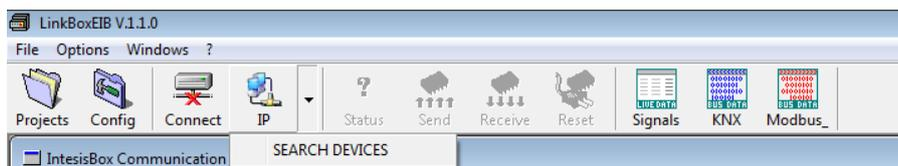
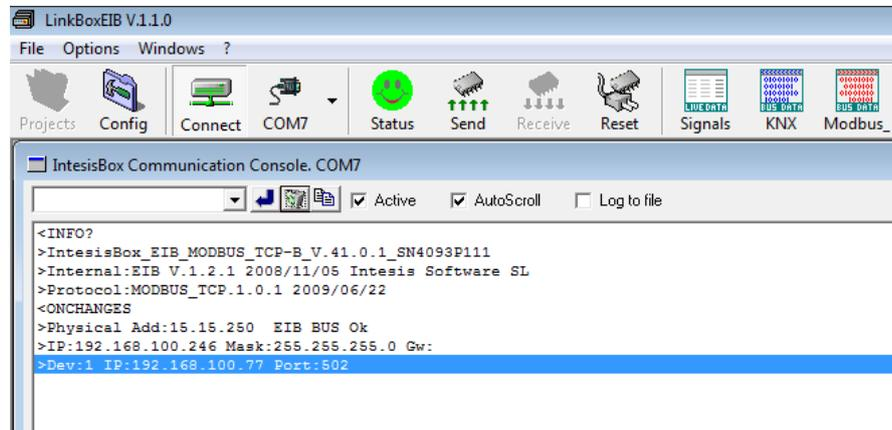

Figure 6.2 Search IntesisBox when connected to the Ethernet
Figure 6.3 Connected
3. (only for IP connection) If the IP is not known click on the arrow next to the IP button (Figure 6.2) and then on SEARCH DEVICES. That will find the IntesisBox connected to the user's subnet. The information of the connected gateways is displayed in the Communication Console (Figure 6.3)
5. If the connection has been successful, the *Connect* and *Status* symbols will turn green and the information of the device will appear in the communication Console (Figure 6.3). Otherwise check the connection parameters (in previous points), connections (check the Connection section in your IntesisBox User Manual) and the status meaning (section 6.2)